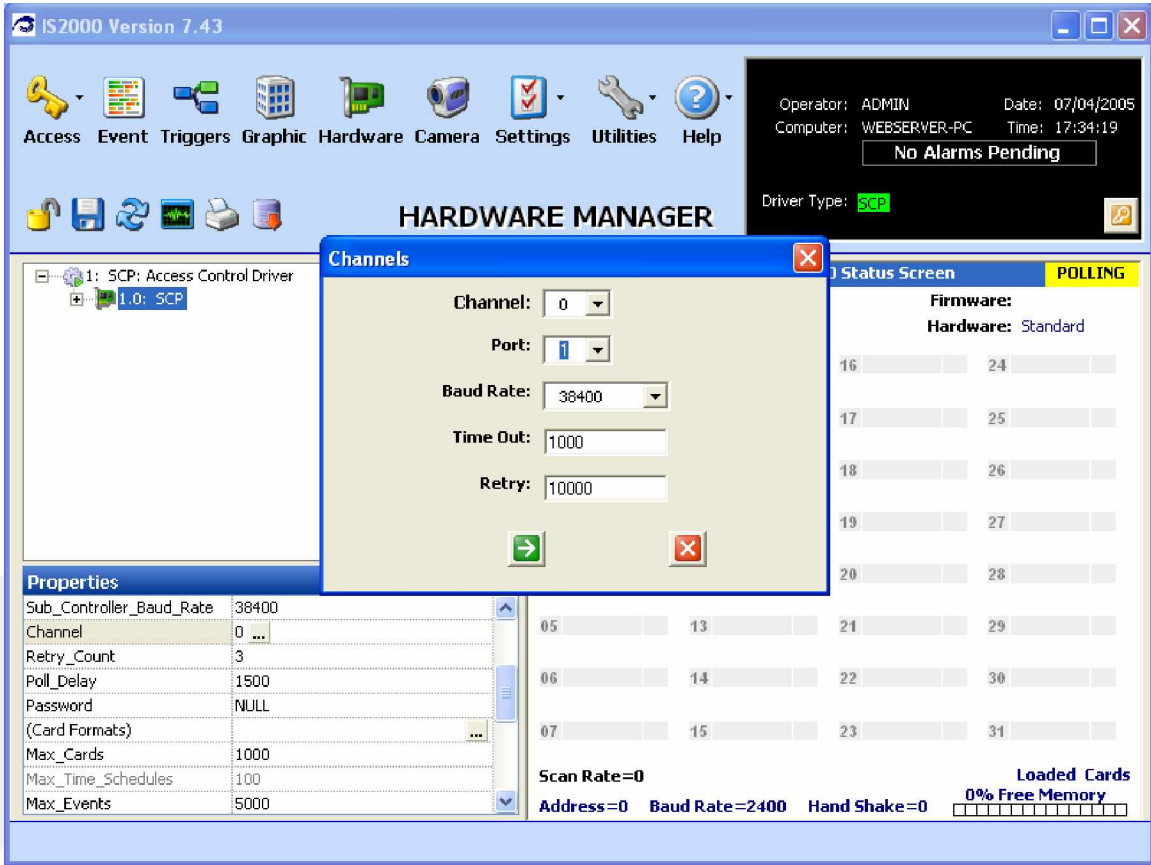

Figure 11 - Channels
1. In the Properties box, click on the (...) in the "Channel" field. See Figure 11.